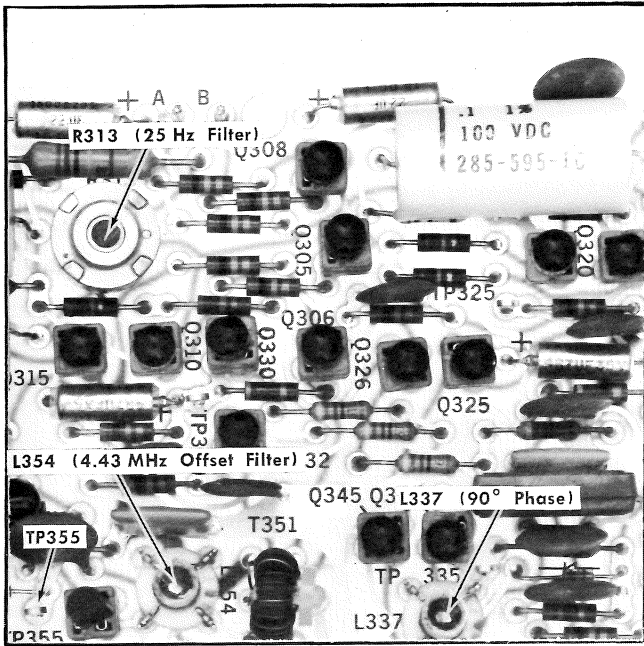

Fig. 5-20. Horiz Colour Lock board adjustment and test point locations.
b. Connect the 10 $\times$  probe to TP355 on the Type R141A Horiz Colour Lock board (see Fig. 5-20).
e. ADJUST—25 Hz Filter control, R313; 4.43 MHz Offset Filter adjustment, L354, (see Fig. 5-20) for maximum signal amplitude as measured on the test oscilloscope.
g. ADJUST—90° Phase adjustment, L337, (see Fig. 5-20) for minimum modulation of the display.